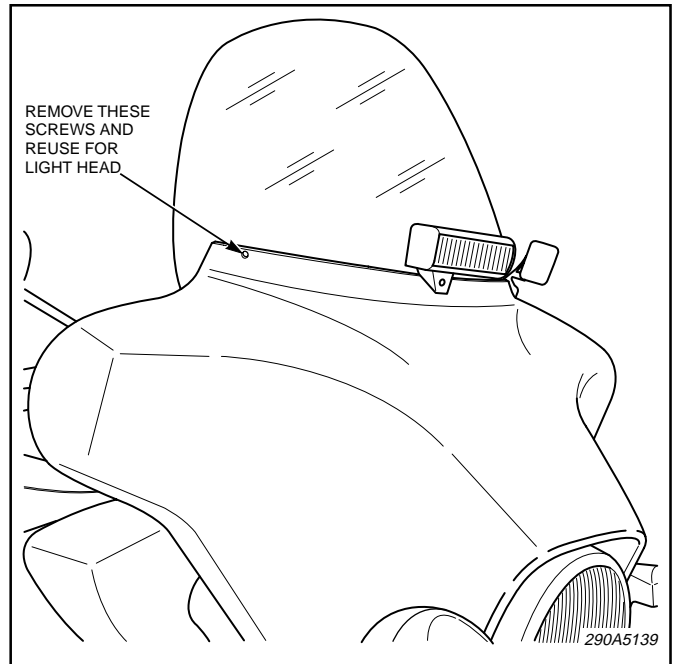

Figure 2.
2. See figure 2. Remove and retain screw from cowl as indicated. Secure assembled bracket/ light head to cowl using previously removed screw. Align light head as desired and tighten screw.